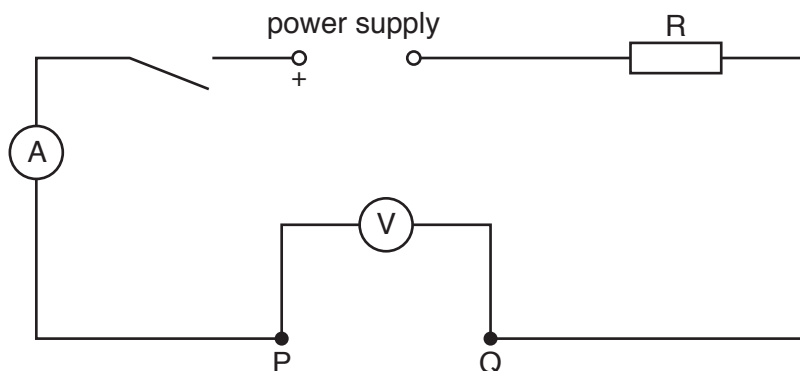

Fig. 2.1
3. Before the start of the experiment and at the changeover, the Supervisor should set up the circuit as shown in Fig. 2.1. The ends of the connecting leads from the voltmeter should be labelled P and Q. The connections at P and Q should allow further connections to be made. A further six connecting leads should be available for candidates to connect the filament lamps to the circuit. Crocodile clips may be used to connect leads to the lamp holders, if required.